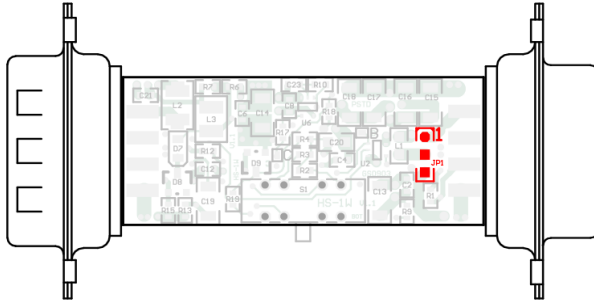

Figure 2: Position of soldering field JP1
2. On the bottom side of the PCB in the soldering field JP1, a 0-Ohm resistor connects the lower two pads (see Figure 2). Unsolder the resistor and replace it so that it connects the